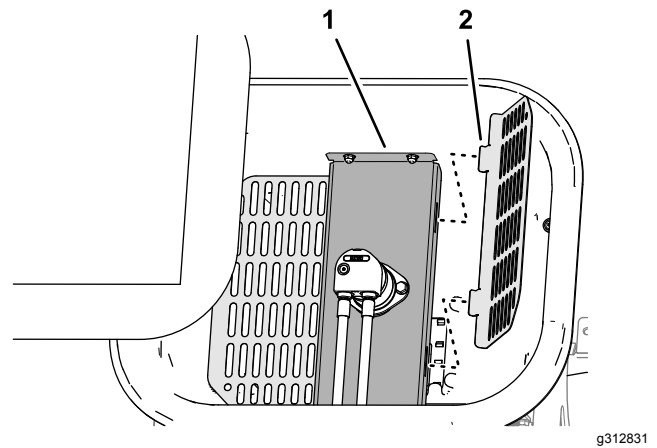

Figure 50
5. Rotate the 2 hopper screens and remove them from the hopper pan (Figure 50).